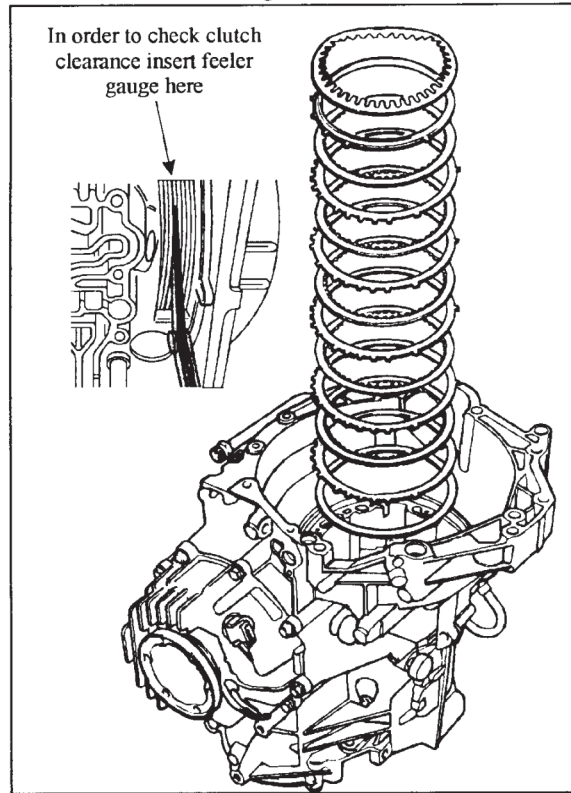

Figure 144
10. Install the B1 clutches into the transmission housing in the following order. Thick steel, steel plate, friction plate, steel plate, friction plate, steel plate, friction plate, steel plate, friction plate, pressure plate piston return spring (See Figure 144).
11. Set clutch clearance using a feeler gauge in the case between the frictions and steels of the B1 clutch as shown in Figure 144. Set clearance to approximately .008" to .010" per friction.